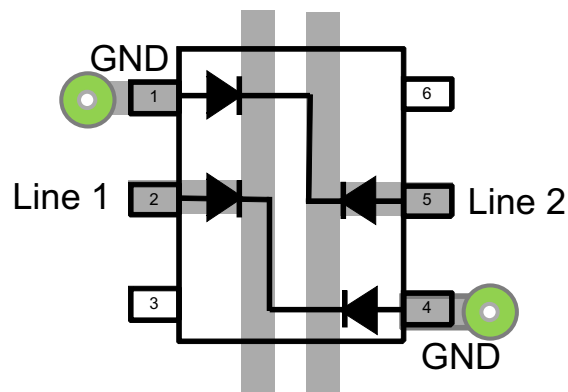

Figure 13. Routing Option 1
(1) Transmission line pulse with rise time 10 ns and pulse width 100 ns.
(3) Using Routing Option 1, Figure 13.